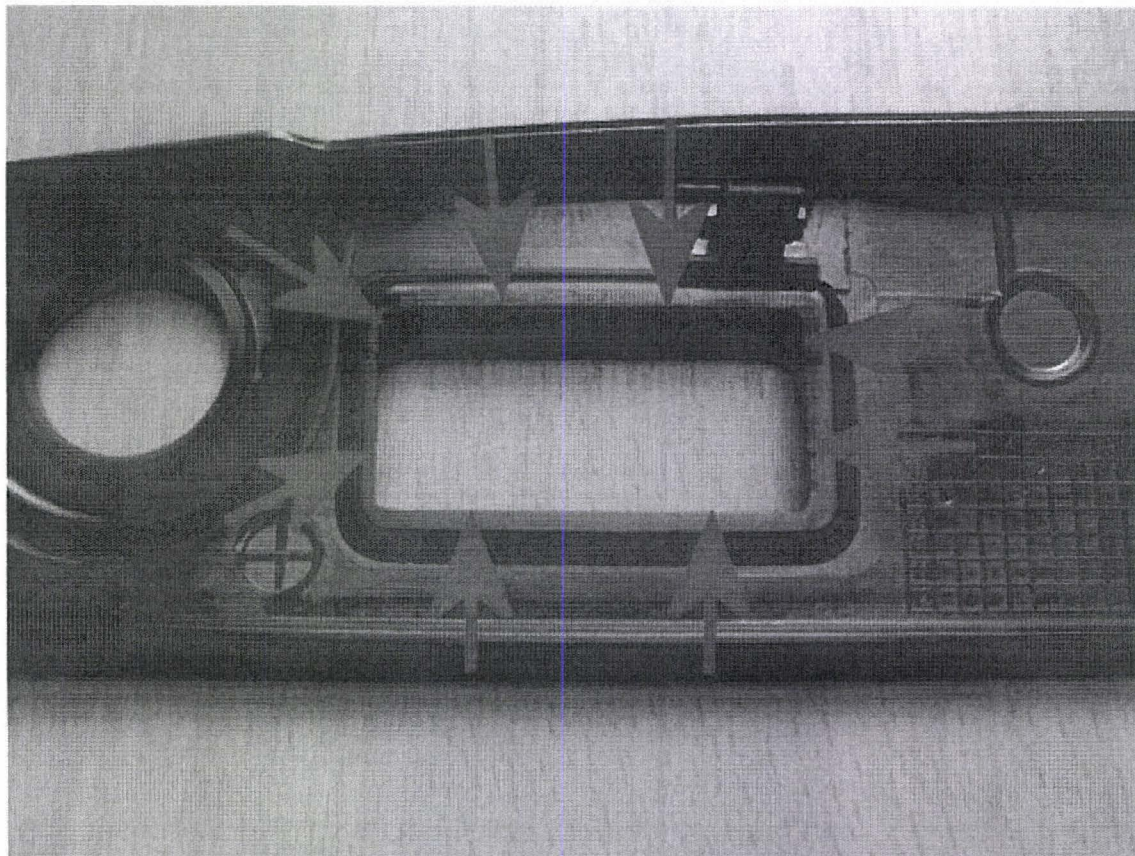

Figure 4
6. Before refitting the existing or new switch it is essential that the switch fits into the cover without any excessive resistance, should there be any burrs or jagged edges around the switch aperture should be carefully smoothed away using a fine sandpaper taking care not to enlarge the aperture (Figure 4)